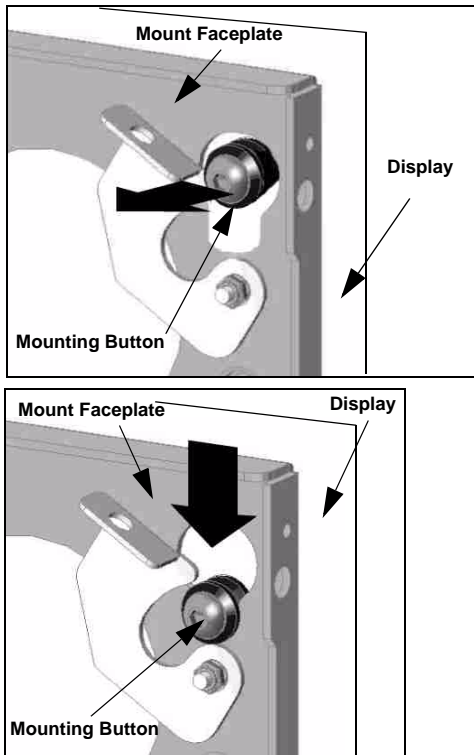

Figure 11: Align Display
2. With one person supporting each side of the display, align the four Mounting Buttons with the four teardrop slots in Mount Faceplate.(see figure 11)